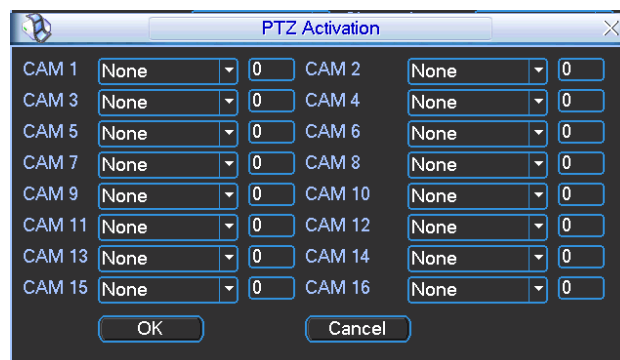

Figure 4-22
- PTZ activation: Here you can set PTZ movement when alarm occurs. Such as go to preset, tour & pattern when there is an alarm. Click “select” button, you can see an interface is shown as in _Figure 4-22.